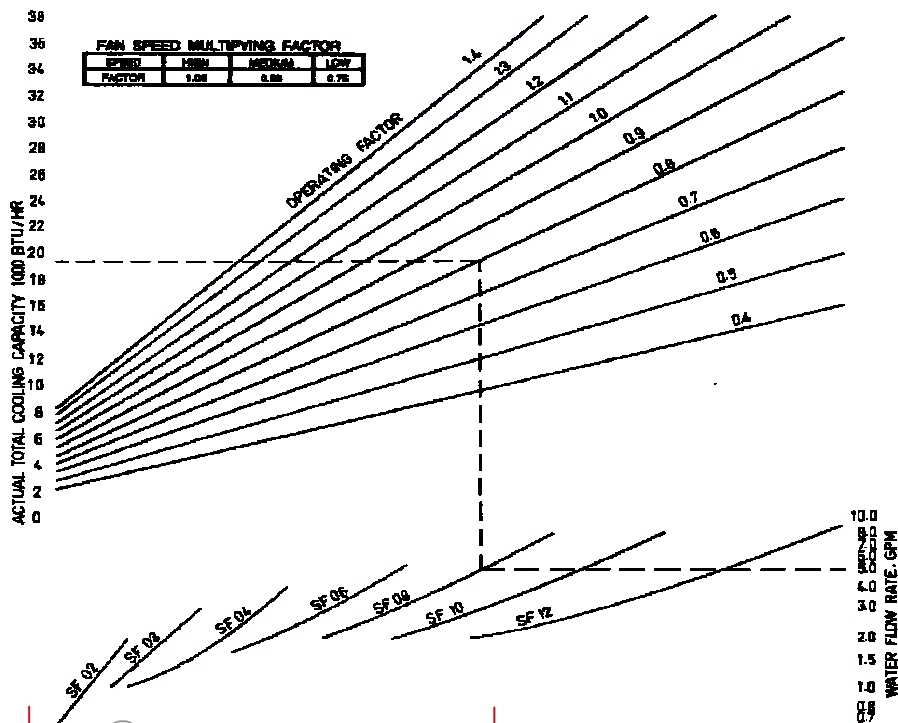

FIGURE 2.
FIGURE 2 is used to find the sensible cooling capacity as a function of water flow rate (GPM), the operating factor (OF), unit size, entering air dry bulb temperature and entering water temperature.